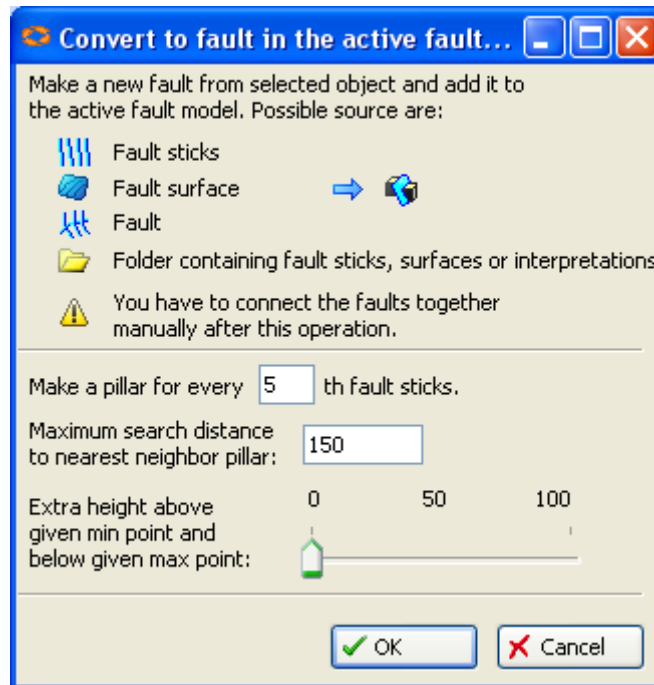

Fig. 11.32: Convert to Fault in the active Fault Modeling dialog box
b. A dialog box will be pops up as shown in Fig. 11.32.